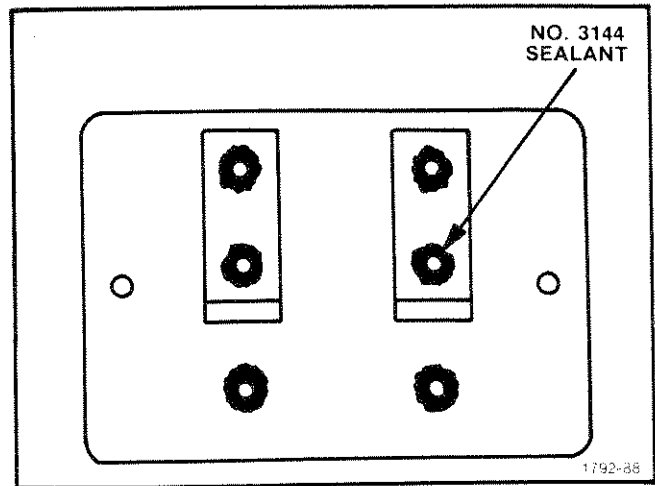

Fig. 5-35. Sealing of Battery Pack screwholes.
**30. Watertight sealing procedures for the Battery Pack (see Figs. 5-35 and 5-36)**
2. Form a bead of No. 3144 sealant in and around each of the six screw holes in the Panel. See Fig. 5-35.